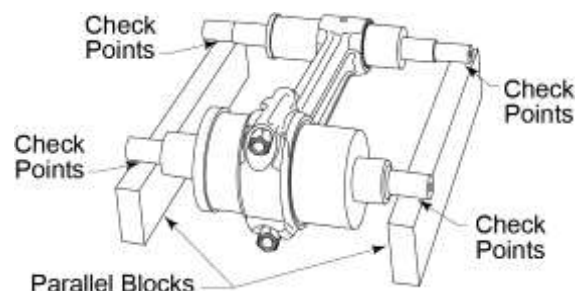

Figure 41
- L. Put the parallel blocks (Figure 41) of the Connecting Rod Parallelism and Squareness Gage on the surface plate.
- N. For the squareness check, measure the clearance at the four check points in Figure 41 where the arbors rest on the parallel blocks using a feeler gage. Record the measurement in the Connecting Rod Inspection Checklist earlier in this chapter